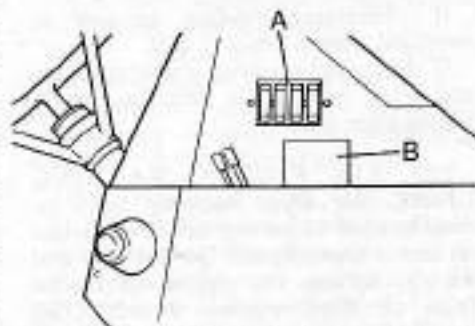

Fig. 121—Fuse holder (A) and cover (B) are located on right side of 1190 model tractors. Replace fuses with specified size and amperage fuse only.
**218. FUSE LOCATIONS.** Model 1190 fuse box is located at right side of instrument panel (Fig. 121).